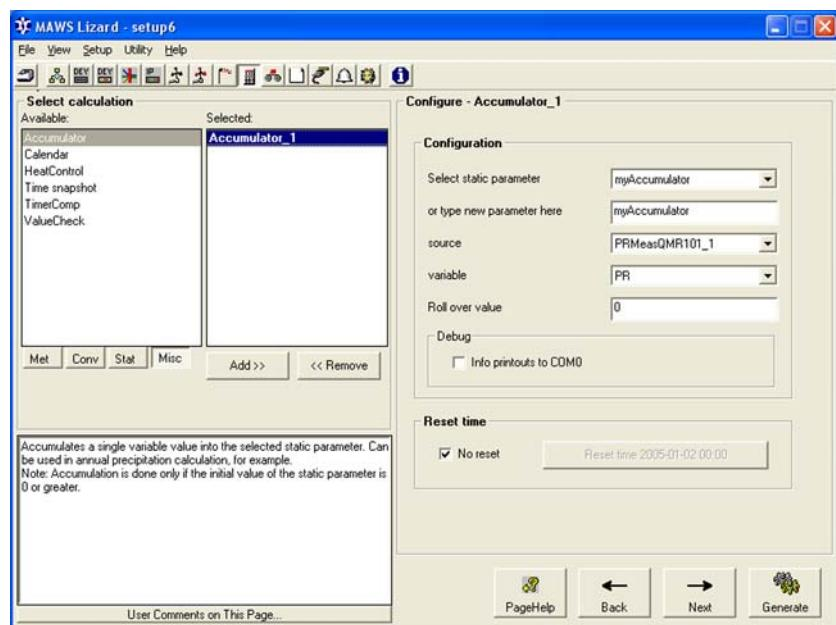

Figure 73 Calculations View: Selecting the Accumulator Component
1. In the **Calculations** view, choose Miscellaneous calculations (**Misc**) by clicking on the correct button below the **Available** list box; see Figure 73 on page 159.